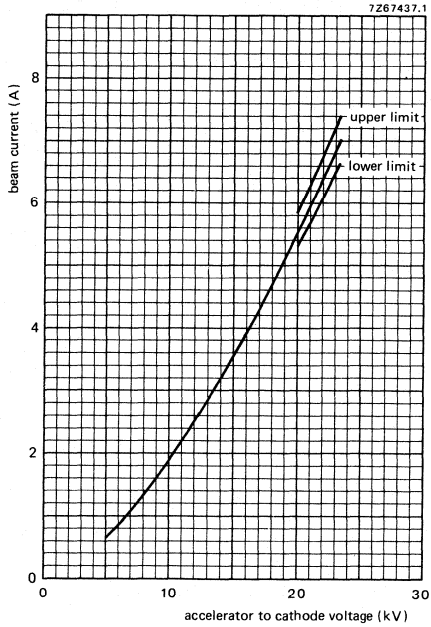

Fig. 4.
8. If the accelerator electrode is connected to the body (ground) via a 10 k $\Omega$  resistor, the beam current is within  $\pm 5\%$  of the value given in the graph of Fig. 4.